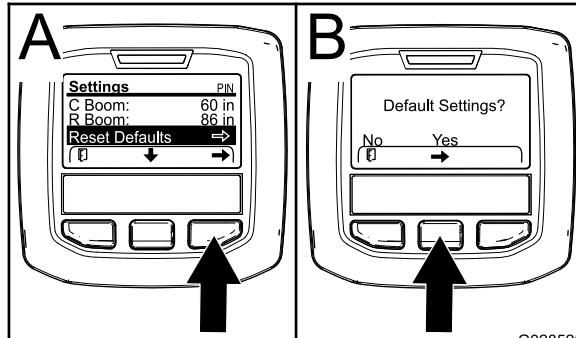

Figure 65
1. Press the center selection button to navigate to the Reset Default entry (Figure 65).
3. In the Default Settings screen, press the left selection button for No or the right selection button for Yes (Figure 65).